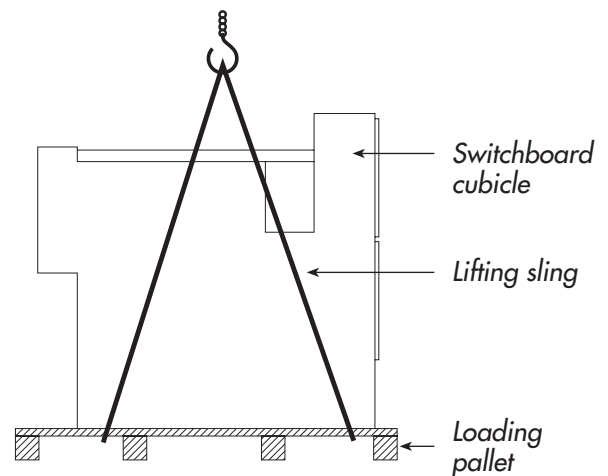

Figure 2.1 Lifting by crane
- fit lifting slings with shackles (of suitable capacity) under the cubicle through the pallet opening (refer to figure 2.1)